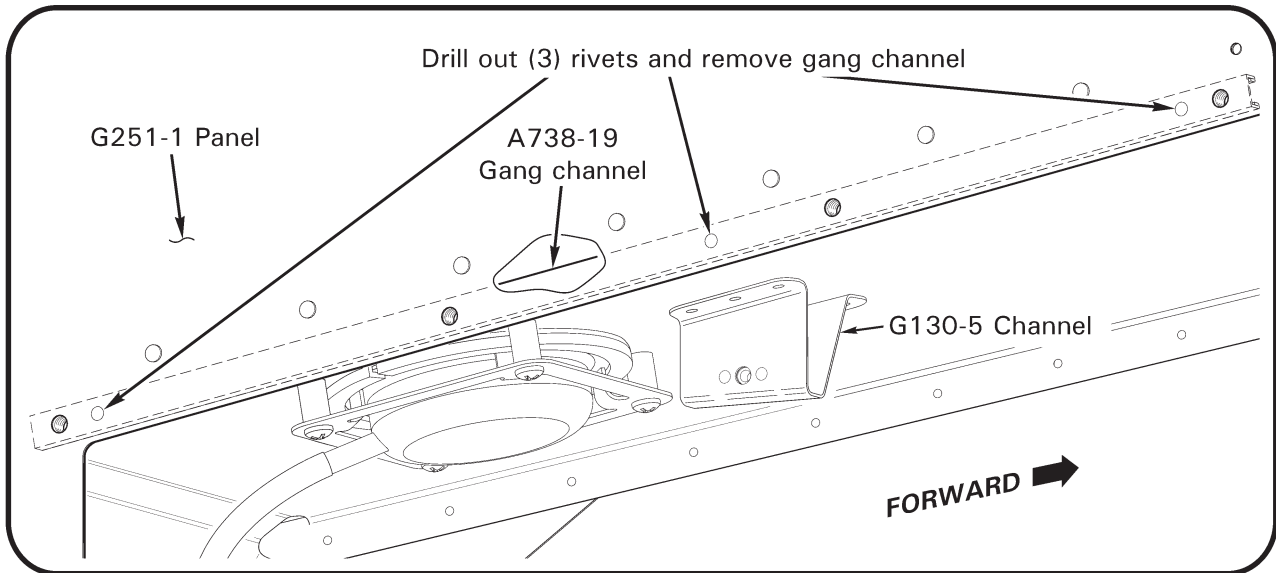

FIGURE 1 Existing installation
3. Refer to Figure 1. Drill out flush rivets securing A738-19 gang channel to G251-1 panel and remove gang channel. Mark forward & aft ends of gang channel to facilitate installation.